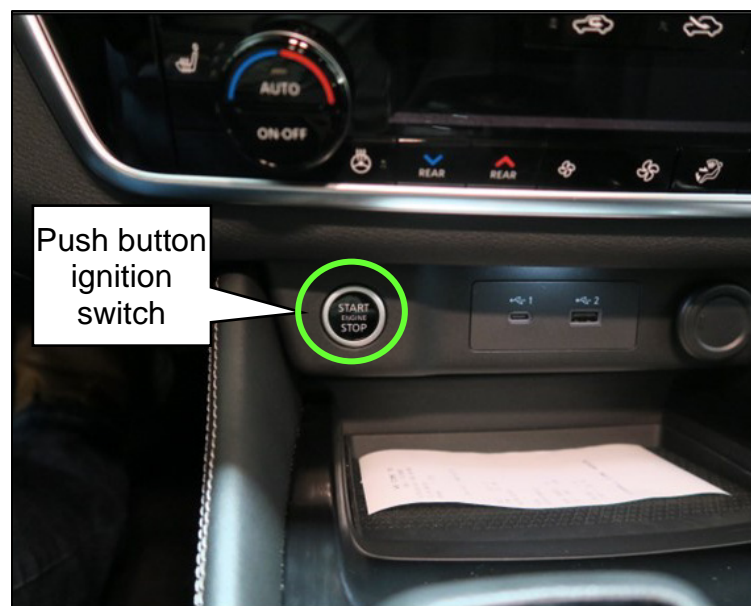

Figure 2
6. Turn the ignition ON (engine OFF) by pressing the push button ignition switch one time without depressing the brake pedal (Figure 2).